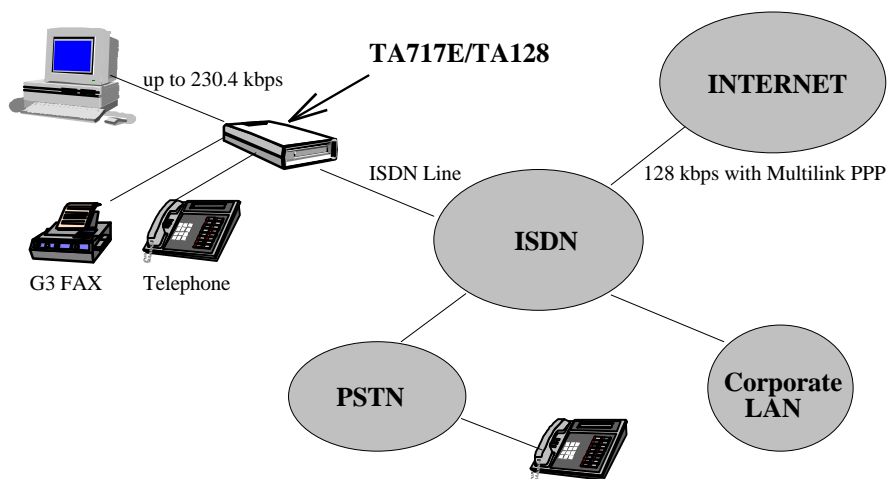

Figure 1-1 Internet and remote network access with the TA717E/TA128
Thank you for purchasing this product. Much research and development has gone in to the design and manufacture of the TA717E/TA128 to make it a truly exceptional performer with a wide range of functions. The TA717E/TA128 is an ISDN Basic Rate terminal adapter (TA) which provides high performance solutions to access the Internet, on-line information services, remote office LANs or other remote systems. In addition to the data service, through the standard POTS analog interface, the user can connect TA717E/TA128 with an existing telephone, G3 fax or modem. A typical TA717E/TA128 application is shown in Figure 1-1.